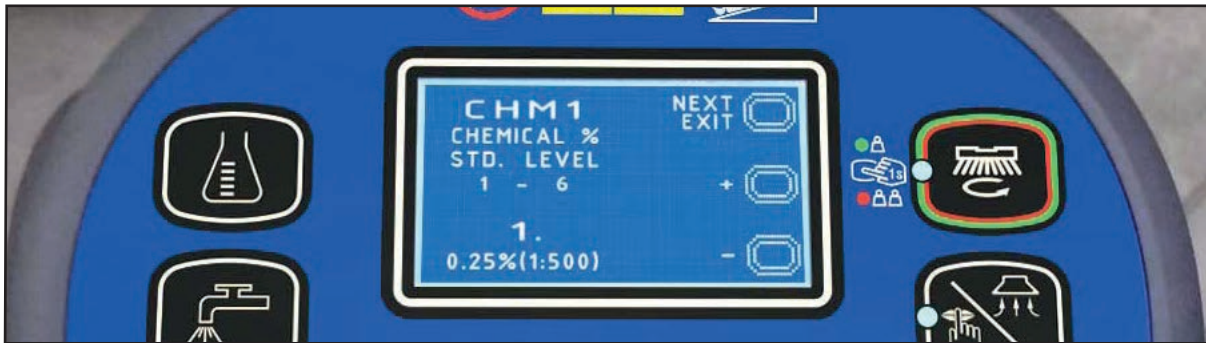

Figure 8
3. To move to the next parameter press the One-Touch button , or hold it for 1 second to return to the main screen (Figure 8).